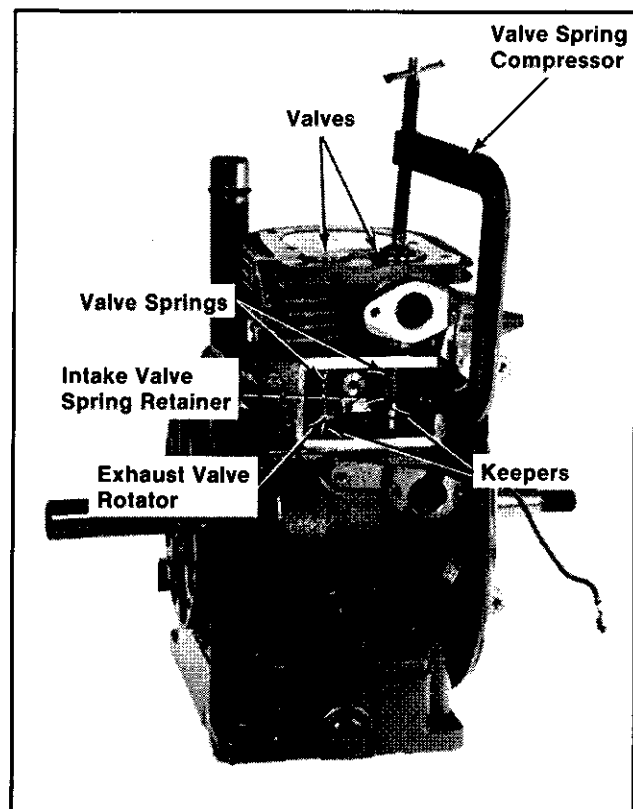

Figure 12A-20. Installing Valves.
4. Install the valve springs (close coils to top), intake valve spring retainer, exhaust valve rotator, and valves. Refer to Figure 12A-20.